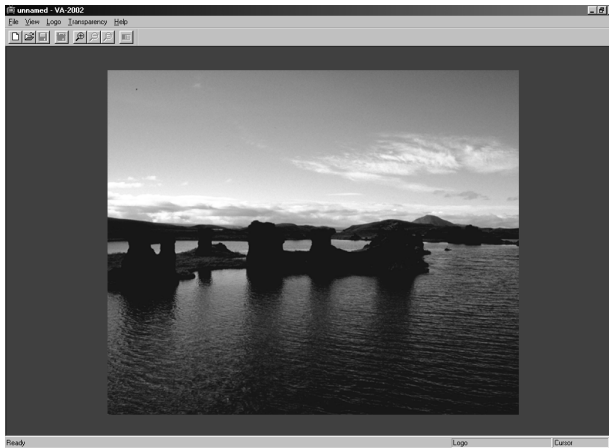
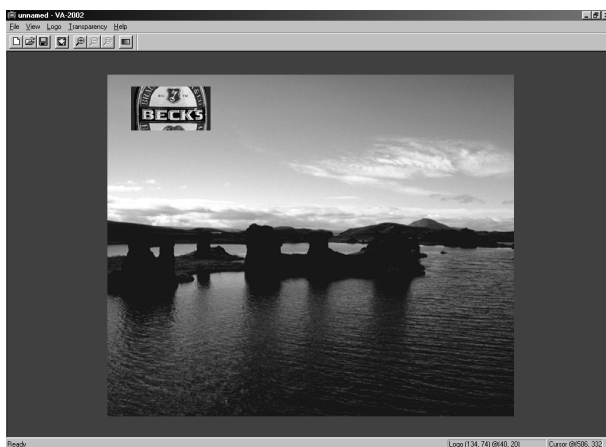
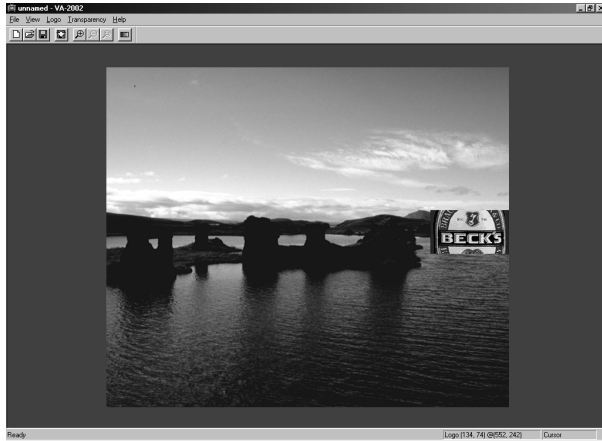
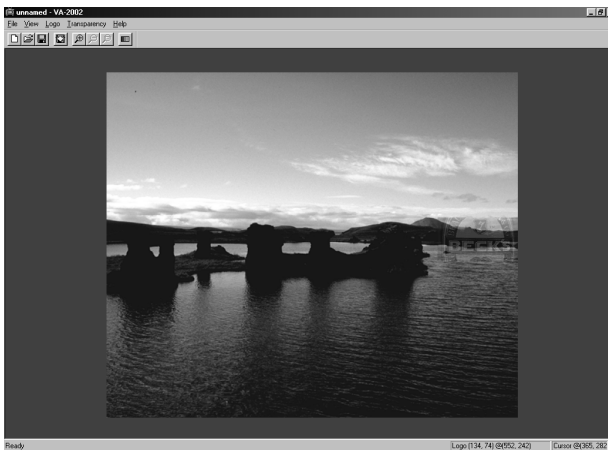

Figure 10: Unnamed – VA-2000 Window
Figure 12: Solid Logo on the Upper Left Side of the Screen
Figure 13: Solid Logo on the Center Right Side of the Screen
Figure 15: Transparent Logo on the Center Right Side of the Screen
The Unnamed – VA-2000 window opens displaying a background screen³, as Figure 10 illustrates:
The Unnamed – VA-2000 window appears with the selected logo (in this example, Becks.bmp) superimposed on the upper left side, as Figure 12 illustrates.
5. You can move the bitmap to a different location on the screen—by dragging it with the mouse—as the example in Figure 13 illustrates.
¹ For example, if the Unnamed – VA-2000 window (illustrated in Figure 10, Figure 12 and Figure 13) was saved as a VA-2002 Project file named “design”, the words “design. lpj” would appear in the Title bar
Add transparency to an inserted logo to enable the viewer to see what is being broadcast behind that logo. Generating a solid logo over part of the screen will block out that part of the viewing area. For example, compare the solid logo illustrated in Figure 13 with the transparent logo illustrated in Figure 15:
¹ As the example in Figure 13 illustrates
² In the example in Figure 15, transparency is set at 80%